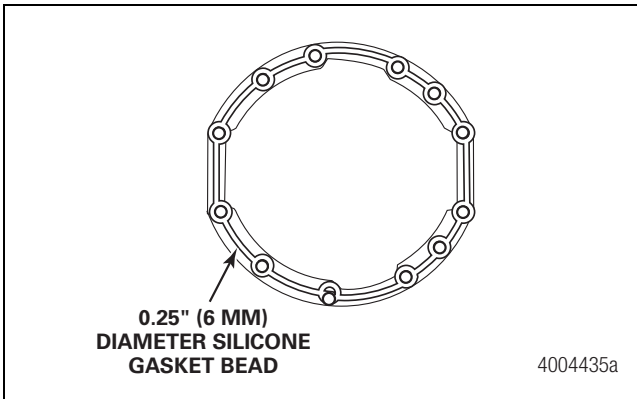

Figure 4.13
10. Apply a 0.25-inch (6 mm) bead of Loctite® 5699 silicone gasket material to the housing face. Do not use ThreeBond 1216E silicone products. Figure 4.13.